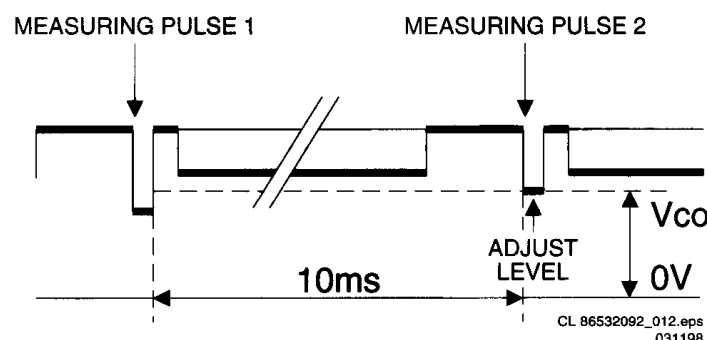

Figure 8-29
- Connect an oscilloscope (position 50V/Div DC and 2ms/Div) alternately to the CRT cathodes (red pin 8, green pin 6, blue pin 11) and measure for each cathode the DC level of the measuring pulse (see elucidation above and Fig. 8.29) and write down each value. Remark: Trigger the scope external via a CVBS signal (for instance via pin 19 of the scart1 connection).